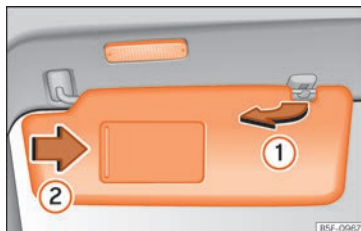

Fig.154 Sun visor
- The sun visor can be pulled out of its mounting and turned towards the door »» **Fig. 154 ①**.